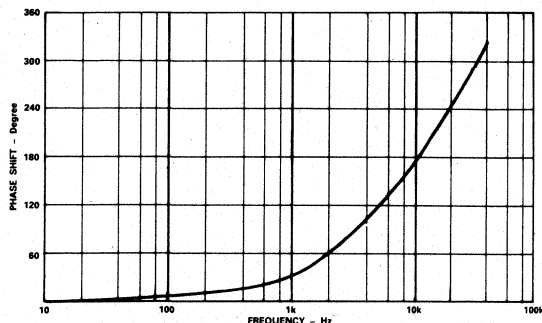

Figure 5. Typical AD293/AD294 - Phase vs. Frequency
**Phase vs. Frequency:** The phase vs. frequency responses for the AD293/AD294, is shown in Figure 5. The bandwidth is sufficient for the majority of isolation applications where accurate signal measurements must be made in the presence of noise and high common-mode voltages.